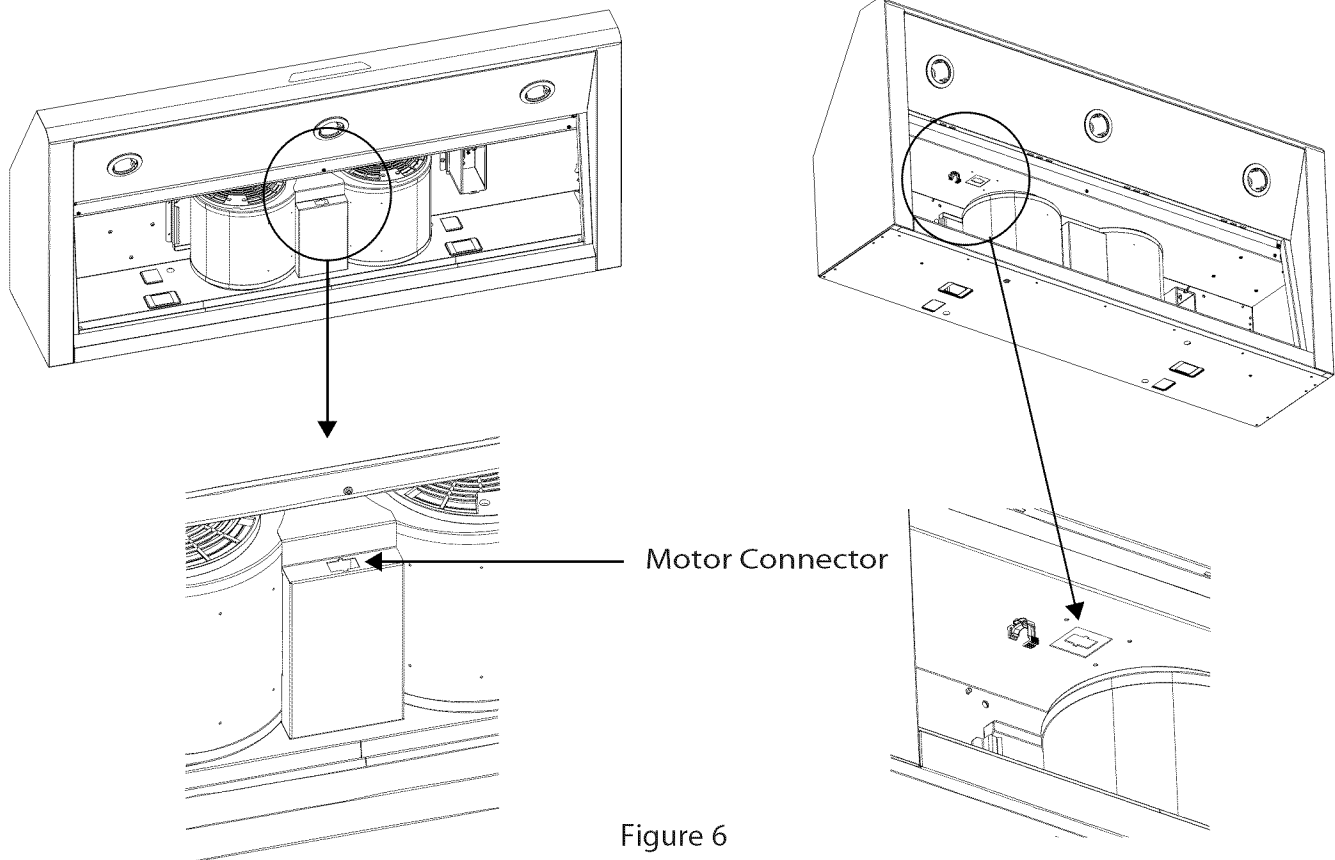

Figure 6
1. Connect the Integral Ventilator moxex plug connector to the connector present inside the hood as shown in Figure 6.